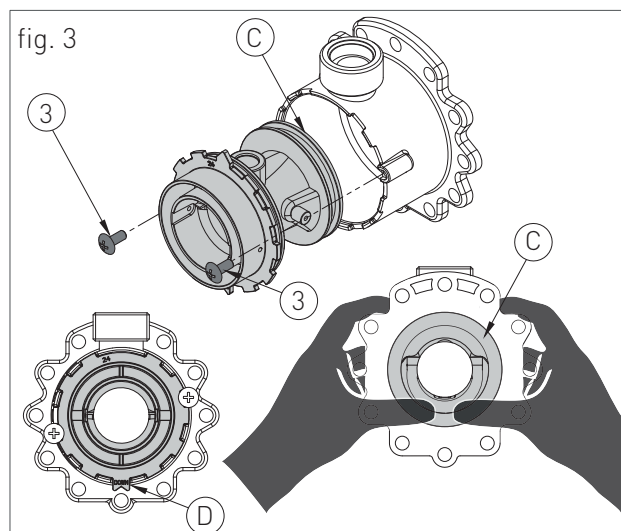

fig. 3
- › remove the two screws '3' (fig.3) and apply pressure on the rear side of venturi 'C' (fig.3);
- › replace the body venturi with the one suitable for the type of supply gas (cod. 30-00124 for methane / cod. 30-00170 for GPL) and make sure the tooth 'D' (fig.3) is adjusted downwards on the aluminium ring nut (see fig.3);